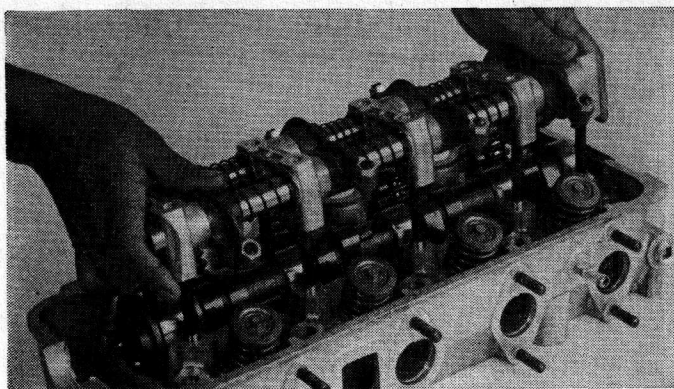

Fig. 40 Removing the Rocker Arm Shaft Assembly
(2) Remove camshaft bearing cap nuts.
(3) Holding the front and rear caps, remove the rocker arm shaft assembly. (Fig. 40)